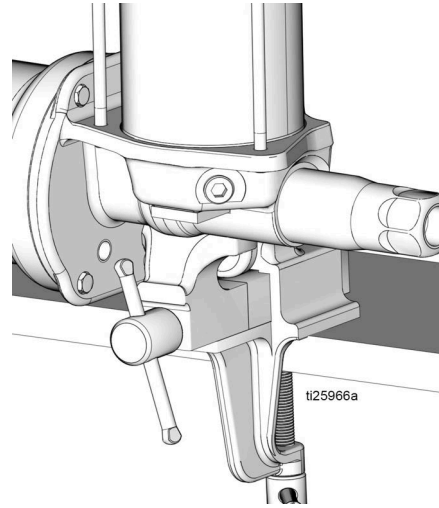

FIG. 12
6. Clamp the pump base in a vise as shown in FIG. 12. Use a soft-jaw vise or place a rag in the vise jaws to protect the surface of the pump base.